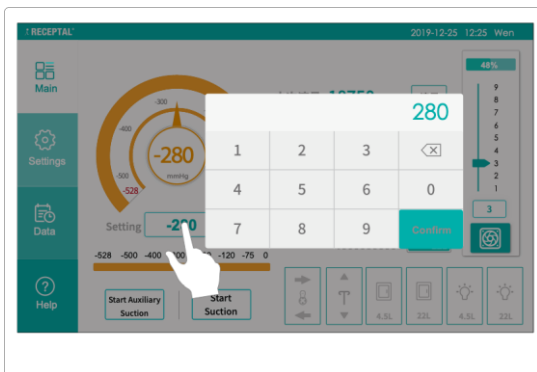

Figure 21 To Set Suction Level
- While viewing the CONTROL screen on the user interface display, tap the SUCTION SETTING BUTTON or slide the Suction level gauge to adjust to the desired suction level (Figure 21).